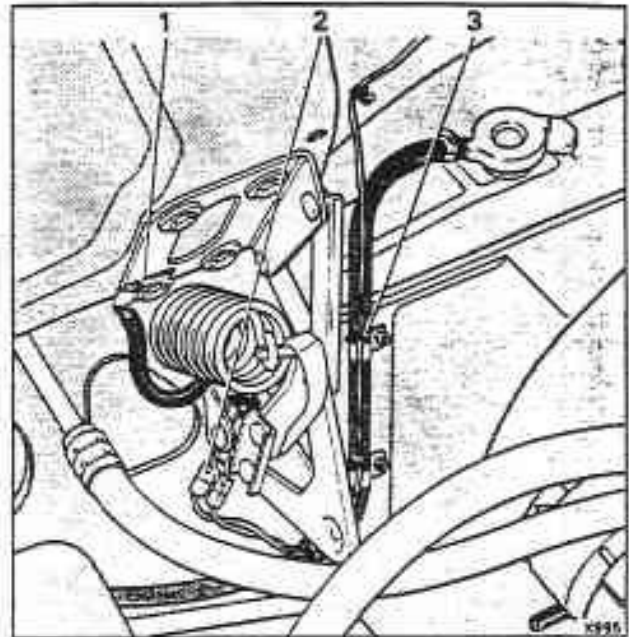

Fig. S12-1 Releasing the bonnet lamp loom
3. Disconnect the leads to the bonnet lamp at the connections adjacent to the left-hand bonnet hinge (see fig. S12-1, item 2). Note the colour and position of the leads to ensure correct assembly.
4. Cut the clips securing the bonnet lamp loom to the coolant hose (see fig. S12-1, item 3).
6. With the help of an assistant, remove the setscrews and washers from each hinge. Note that there is an earth bonding strap secured under one of the setscrews (see fig. S12-1, item 1).